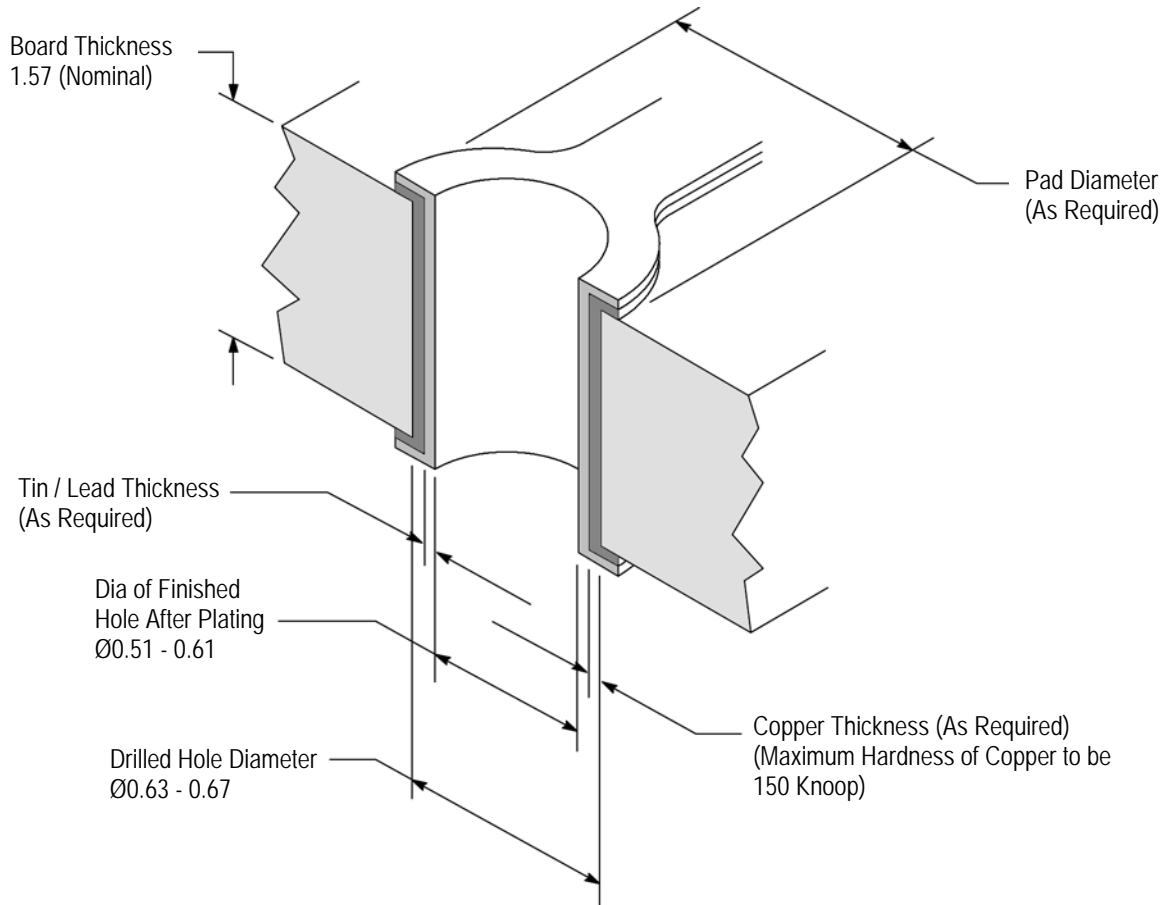

Figure 3
- 4 Refer to Figure 3.
The holes in the pc board for the contact tines must be drilled and plated through to specific dimensions. See Figure 3.